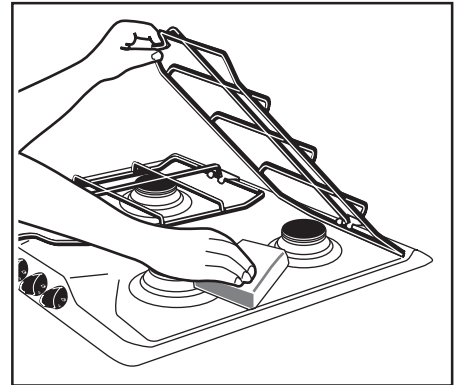

Fig. 2
**Model ZGF 682:** The pan supports can be lifted for easier cleaning, as shown in **Fig. 2**.